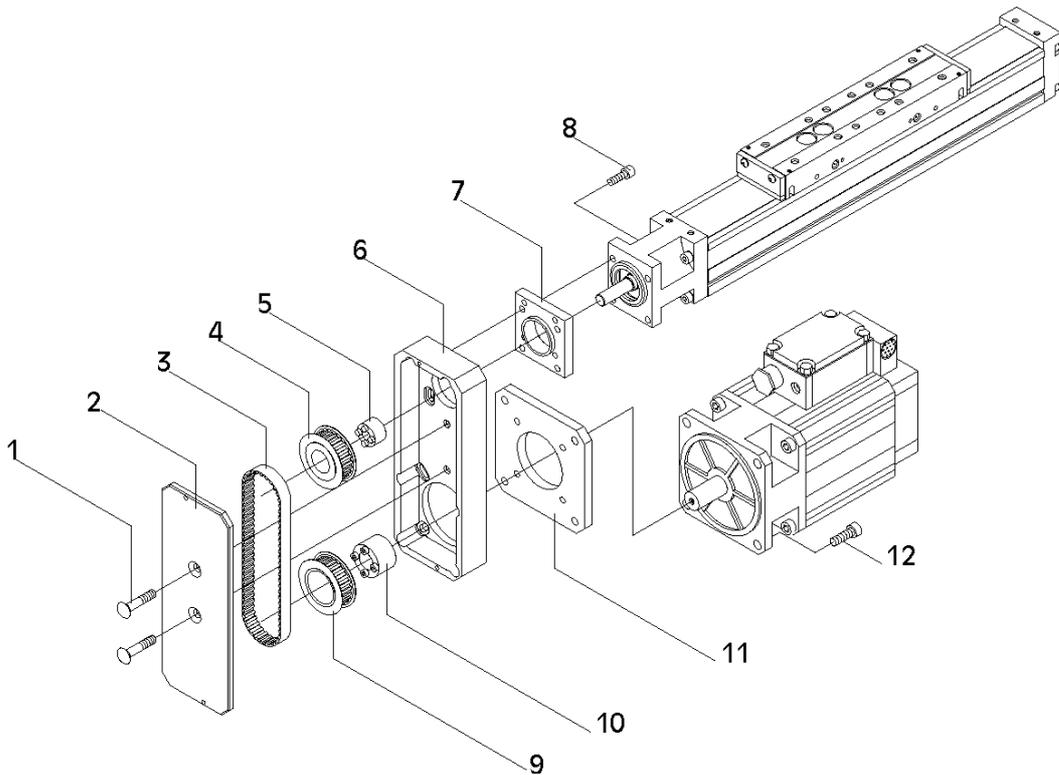

Fig. 9
1. Fig. 9: Fasten housing (6) to the bearing housing of the WM40 using adapter plate (7).
2. Put synchronous sprocket (4) with DKWN tension set, inside diameter 8 mm (5) on the drive shaft of the WM40.
3. Attach drive motor with adapter flange (11) on housing. Do not tighten the screws yet.
4. Put synchronous sprocket (9) with DKWN tension set, inside diameter 14 mm (10) on the motor shaft.
5. Lay toothed belt (3) round both synchronous sprockets, aligning them with each other. Then fix
6. Fig. 9: Tighten toothed belt by shifting the motor with adapter flange (11).
7. Screw cover plate (2) onto housing.